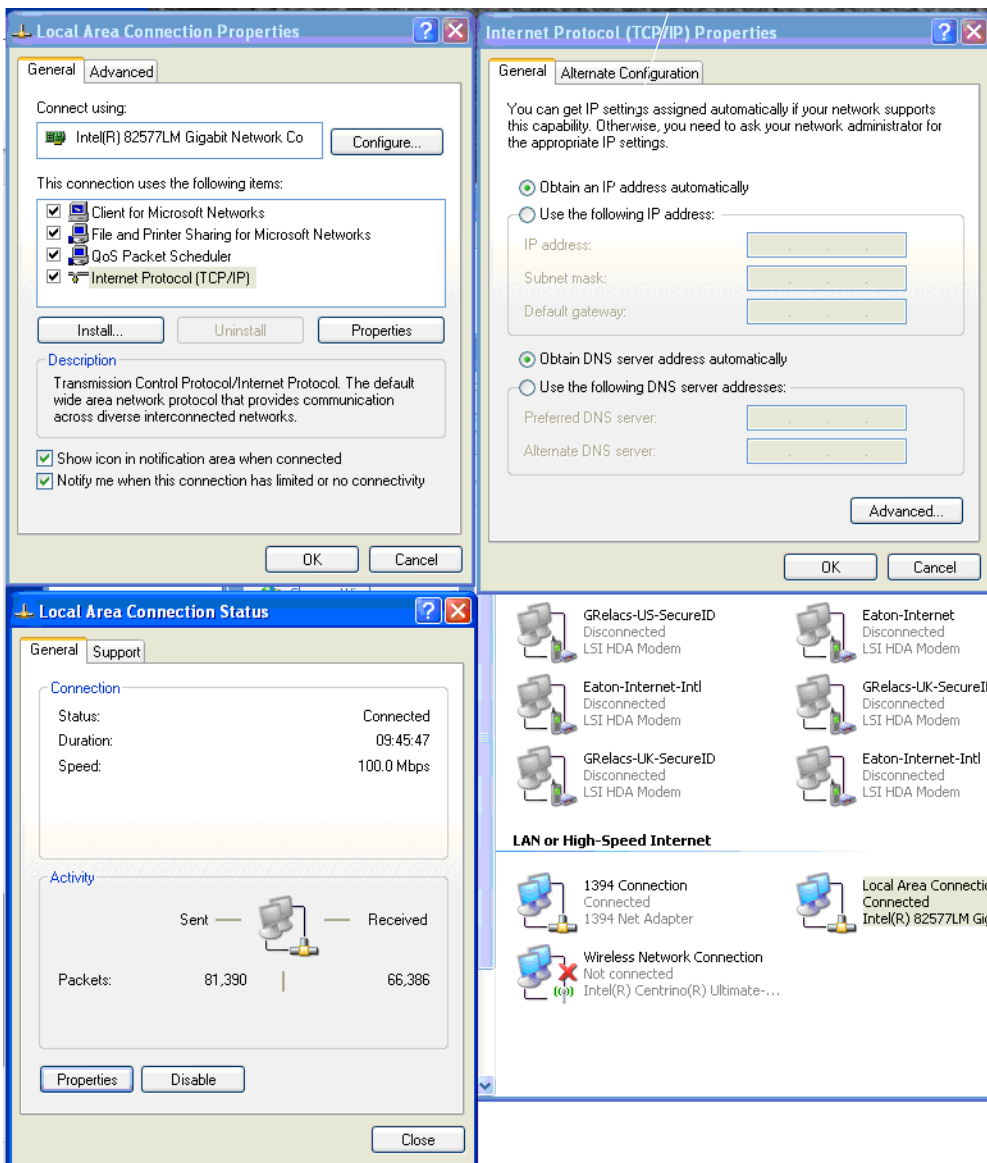

Figure 25. PC setup.
- c. Go to Properties in the General tab. This will open the Connection Properties window. See Figure 25.
- d. Double click on the Internet Protocol (TCP/IP) selection. See Figure 25.
- e. Make sure the "Obtain an IP address automatically" is selected. See Figure 25.